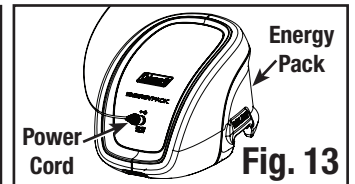

Fig. 13
- Locate the power cord that was installed into the tent, and then plug it into the Energy Pack. (Fig. 13)